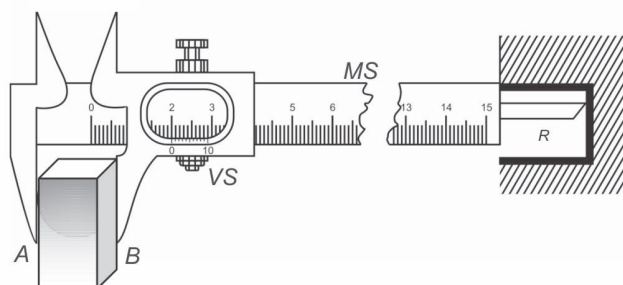

Fig. 2.6: Measurement of the thickness of a wooden block with vernier callipers.
A vernier callipers is a steel apparatus which has two jaws *A* and *B* as shown in Fig.2.6. Jaw *A* is fixed to a scale (main scale) of about 15 cm length with millimeter markings on it. Jaw *B* is attached to a small movable scale called vernier scale. The object, whose length is to be measured (a wooden block in our case) is held between these two jaws and measurement is done by following the steps described in the procedure given later.
3. Hold the block between the jaws, as shown in Fig. 2.6.